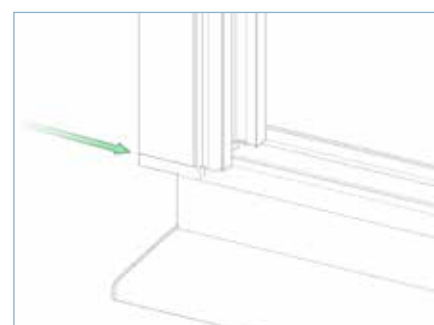

FIG 4B
- ▶ **4.5.** Using a rubber mallet, gently tap the jambs in to the track as shown in FIG 4B.